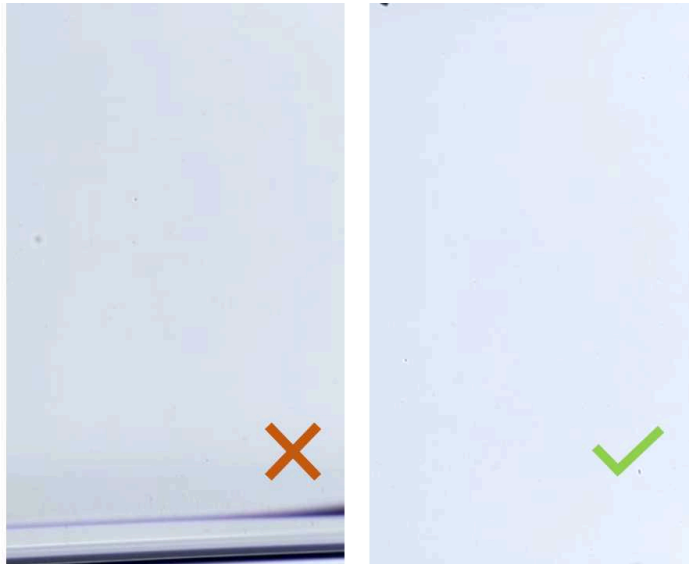

Figure 4: The figure on the left shows a misaligned Flow Cell. The background should be homogeneous like in the figure on the right.
2. Check for lens alignment with the Flow Cell. Move slowly the Flow Cell receptacle until there is no black background like in Fig.4.